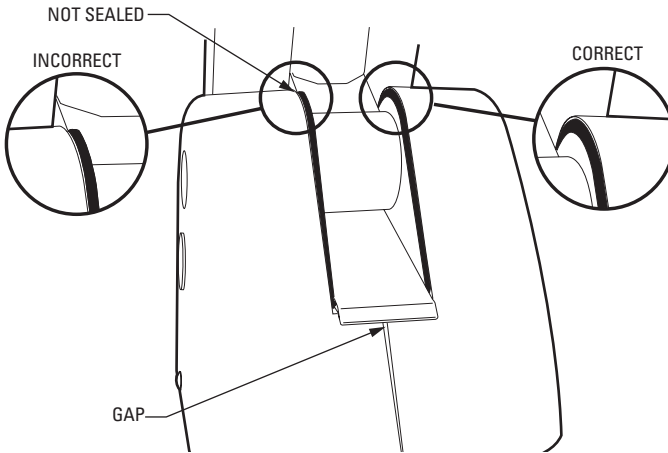

Figure 4. Installing the Esprit Cover
- a. Properly position the cover and slide it into place. The sides of the cover must fit under the front and back rain guards of the pan and tilt. The top of the cover must seat against the lip of the top gasket. (Refer to Figure 4.)